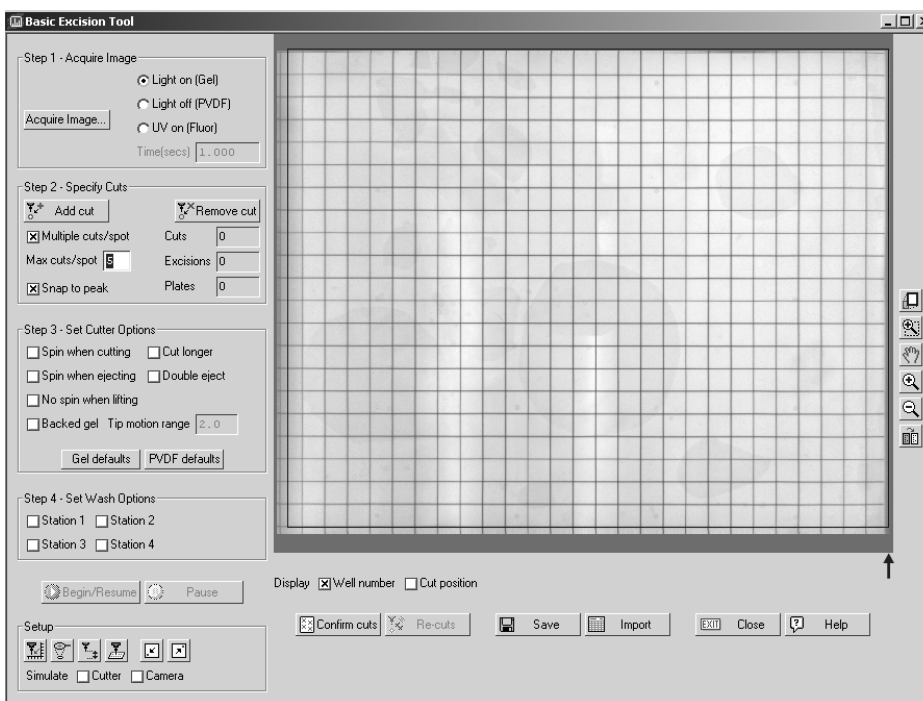

Fig. 15c. Image correctly aligned.
- Acquire a new image to check the position. Repeat until the camera is correctly positioned as shown in Figure 15c.